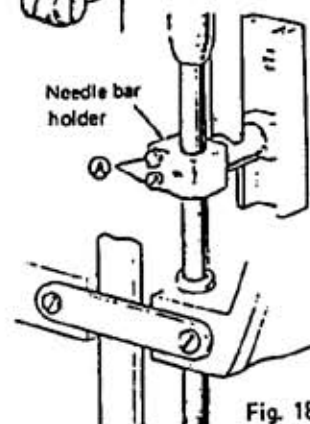

Fig. 18
- (2) The gap between the concave face of the needle and tip of hook would be approx. 0.05mm as
- (3)
To adjust the height of needle, loosen the screw (A) of the needle bar holder (Fig. 18) and move the needle bar up and down by hand.